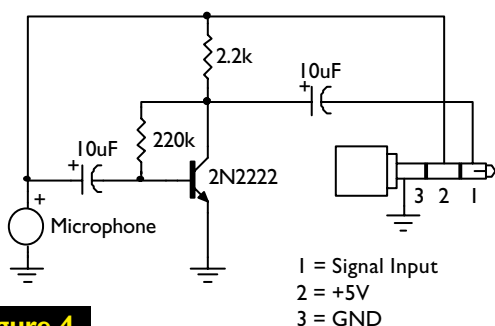

Figure 4
A. The circuit in Figure 4 should do the trick. It's a single transistor, grounded-emitter design with a gain of about 20 dB. The parts count is low and the circuit can probably fit into your headset, if you use surface mount devices. The power comes from the PC's MIC input jack.